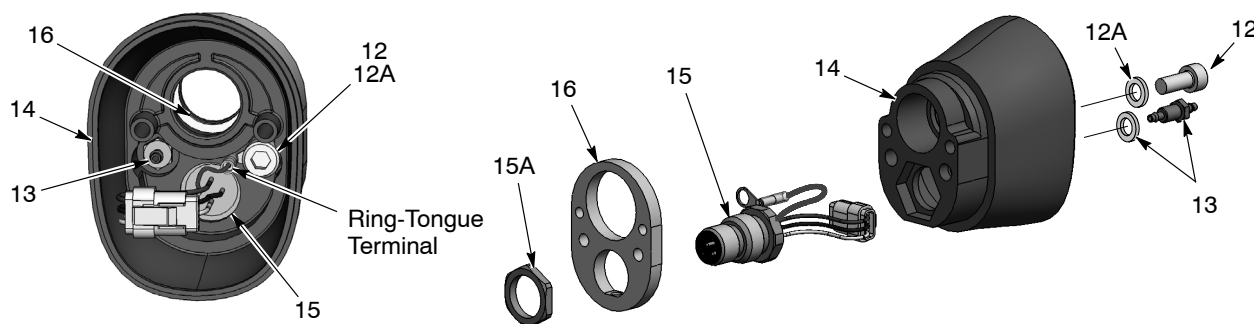

Figure 7-12 Tube-Mount Spray Gun Disassembly 5 of 5
18. See Figure 7-12. To disassemble the rear body assembly, remove the screw (12) and barbed fitting (13) from inside the rear spray gun body (14). A 3-mm hex key and  $\frac{1}{4}$ -in. deep-well socket are required.
19. Remove the nut (15A) from the receptacle, pull the grounding plate (16) off the rear spray gun body, and feed the receptacle harness through the body.
**NOTE:** When reassembling, secure the ring-tongue ground terminal to the rear spray gun body with the screw (12) and lock washer (12A) and torque the screw to 2.5 N•m (22 inch-lbs).